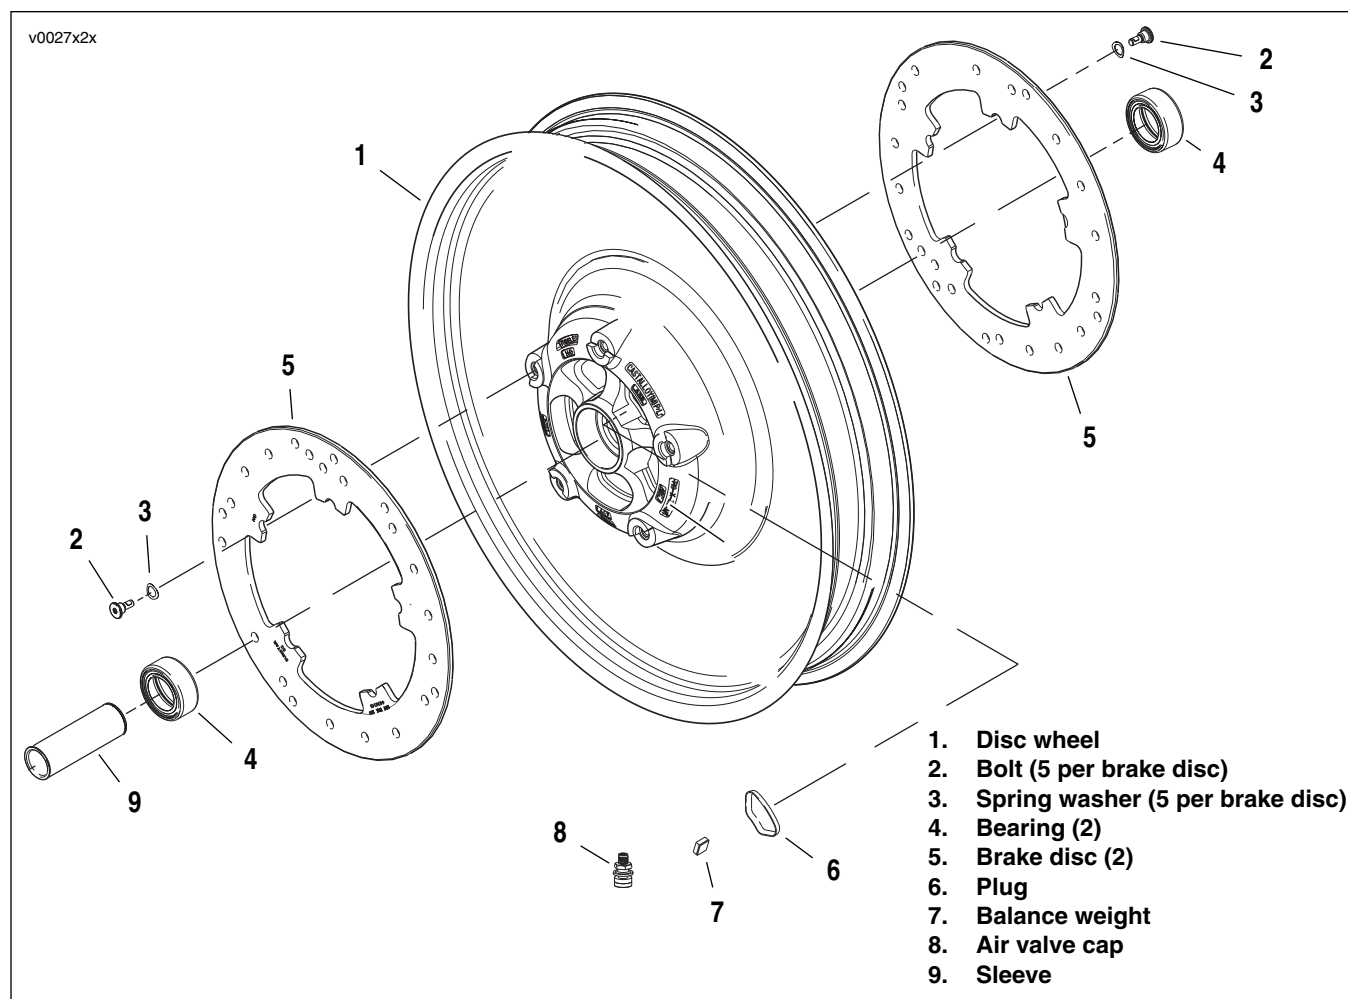

Figure 2-75. Front Wheel Components (typical)
5. See Figure 2-75. If removing brake discs (5), remove five bolts (2) and spring washers (3) securing brake disc to the wheel (1). Repeat procedure to remove disc on opposite side of wheel. Discard bolts and spring washers.
4. See Figure 2-75. If necessary, install brake discs in their original positions. Verify that brake disc is clean.
- a. On left side of wheel, install five **new** bolts (2) and five **new** spring washers (3) to attach left brake disc. Tighten bolts to 22-33 Nm (16-24 ft-lbs).
- b. On right side of wheel, install five **new** bolts (2) and five **new** spring washers (3) to attach right brake disc. Tighten bolts to 22-23 Nm (16-24 ft-lbs).